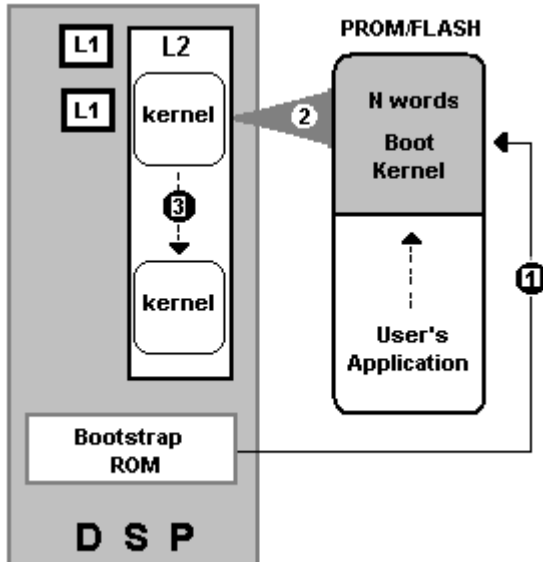
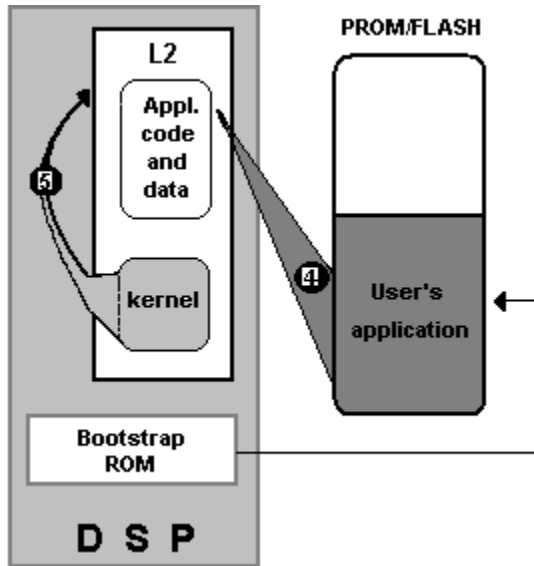

Figure 3-4. Loading Boot Kernel
Figure 3-5. Executing the Application
The booting and application loading sequence includes (see Figure 3-4 and Figure 3-5):
5. The boot kernel jumps to the start of the L2 memory space (the beginning of the application) and starts application execution (see Figure 3-5).
in L2 memory (starting at location `0xF000 0000`) and does not have sections that are far apart. In this case, the application has to be loaded from a FLASH/SPI/PROM device, as shown in Figure 3-5.